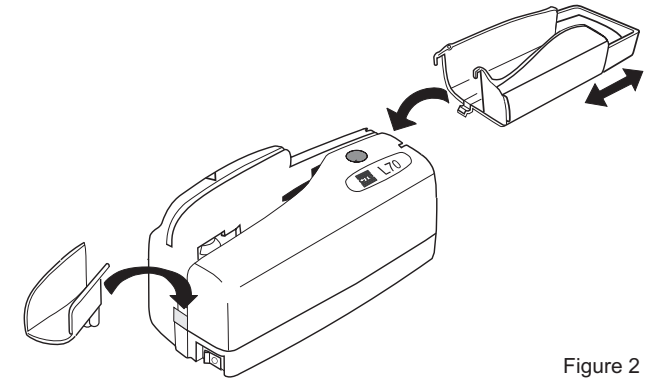

Figure 2
- connect the cable (9 or 10) to the reader connector (8) and to the PC interface connector
- connect the power cable supply (12) into the power connector (11)
- insert the document insertion guide as per diagram figure 2.
- insert the collection channel for outgoing documents ensuring the two uppermost lugs are placed in position first and then the bottom lug is pushed into place by gently applying pressure until it clicks into place (as per diagram figure 2)